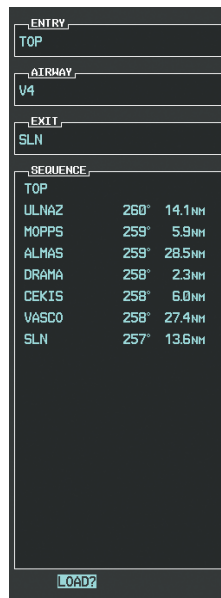

Figure 5-119 Ready to Load V4
- j) Press the **ENT** Key. The selected airway and exit are displayed, and the prompt “LOAD?” highlighted as in Figure 5-119.